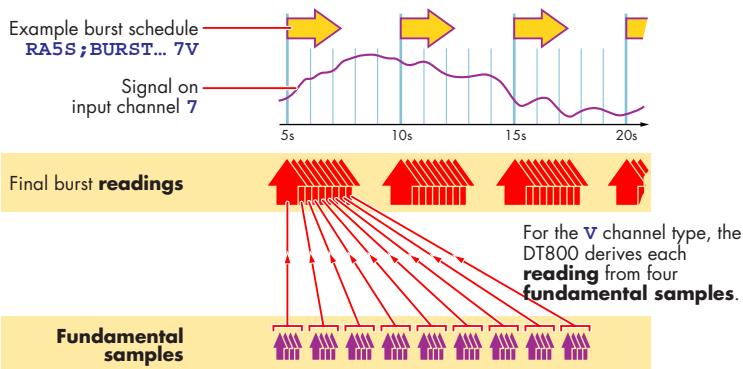

FIGURE 55 Concepts: readings and fundamental samples — burst mode
- for each channel type, the number of **fundamental samples** required to obtain an individual **reading** — see Figure 55